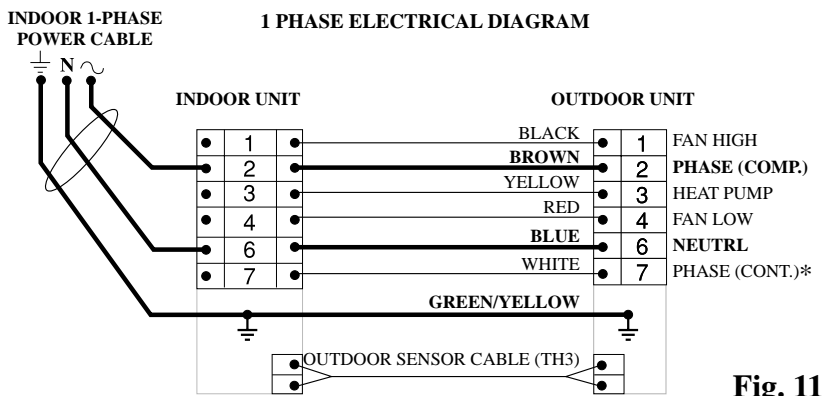

Fig. 11
- Connect the wires to the terminal block male-female, in accordance with the color coding which appears in Figure 11.